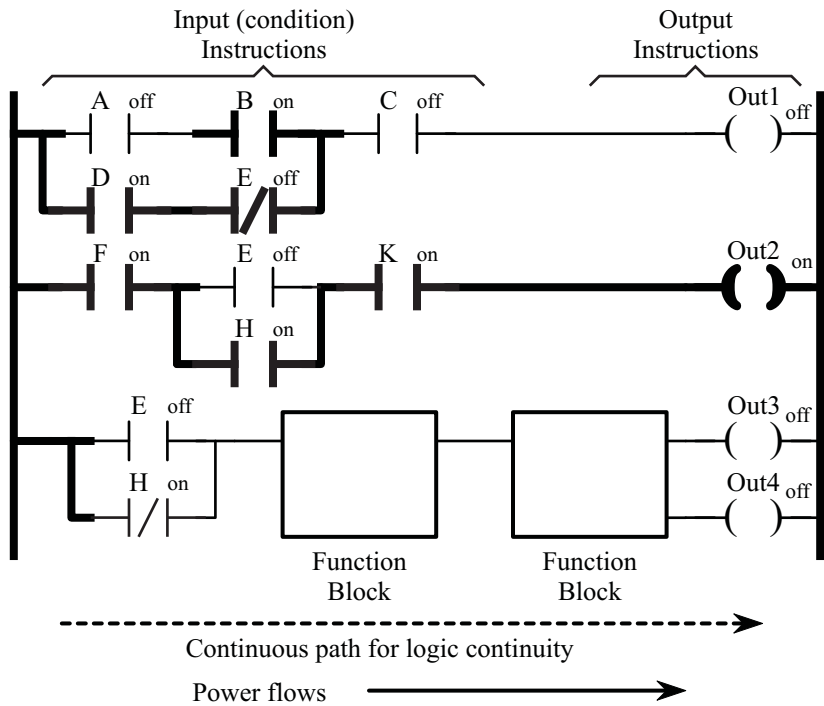
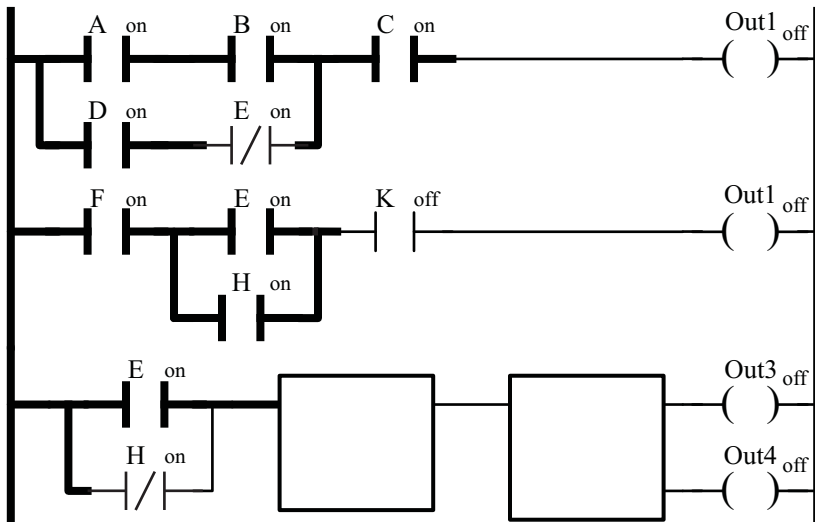
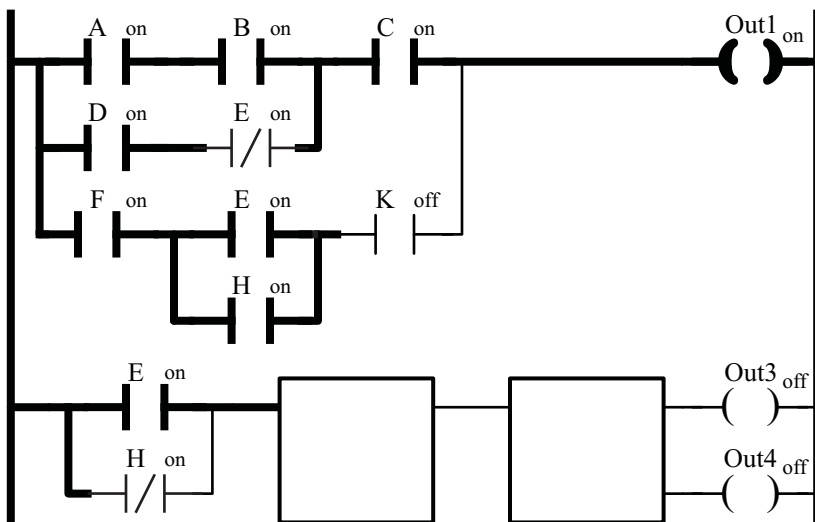

Figure 2.9. Sample ladder logic diagram.
Figure 2.14. Ladder with repeated output.
Figure 2.15. Repeated output corrected.
An example PLC ladder logic diagram appears in Figure 2.9. The vertical lines on the left and right are called the power rails. The contacts are arranged horizontally between the power rails, hence the term *rung*. The ladder diagram in Figure 2.9 has three rungs. The arrangement is similar to a ladder one uses to climb onto a roof. In addition, Figure 2.9 shows an example diagram like one would see if monitoring the running program in the PLC. The thick lines indicate continuity and the state (**on/off**) of the inputs and outputs is shown next to the tag. Regardless of the contact symbol, if the contact is closed (continuity through it), it is shown as thick lines. If the contact is open, it is shown as thin lines. In a relay ladder diagram, power flows from left to right. In PLC ladder logic, there is no real
power flow, but there still must be a continuous path through closed contacts in order to energize an output. In Figure 2.9 the output on the first rung is **off** because the contact for C is open, blocking continuity through the D and E contacts. Also notice that the E input is **off**, which means the NC contact in the first rung is closed and the NO contact in the second rung is open.
Figure 2.9 also introduces the concept of *function block instructions*. Any instruction that is not a contact or a coil is called a function block instruction because of its appearance in the ladder diagram. The most common function block instructions are timer, counter, comparison, and computation operations. More advanced function block instructions include sequencer, shift register, and first-in first-out operations.
1. **DO NOT** repeat normal output coils or negated coils that refer to the same tag. To illustrate what happens when this is done, consider the ladder logic diagram in Figure 2.14. This is the ladder of Figure 2.9, modified for this illustration. Note that the coils for both the first and second rung refer to Out1. When the first rung of the ladder is scanned, Out1 is turned **on**. However, when the second rung is scanned, Out1 is turned **off**, overriding the logic in the first rung. If all of these conditions are needed to turn on Out1, then they all should be placed in parallel, as in Figure 2.15. In this illustration, it was obvious there is a problem. Normally, when this problem occurs, the rungs are not adjacent, and it is not so obvious. Compounding the problem, not all PLC programming software checks for this situation. Therefore, the best way to prevent this problem is to consider the output coil **first** and then consider all of the conditions that drive that output.